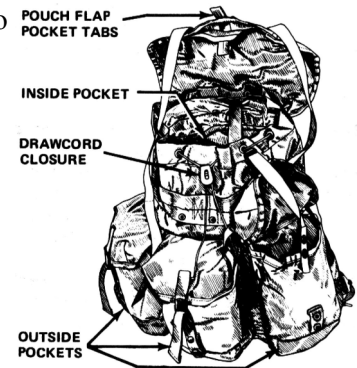

Figure 8-25: Medium Combat Field Pack
**Medium Combat Field Pack.** Use the medium combat field pack to carry existence loads including clothing, rations, and personal items. The pack (Figure 8-25) has a pouch with a drawcord closure and three outside smaller pockets. These pockets are tunneled to the pouch so that long objects can be carried between the pouch and each pocket. The pouch also has a special inside pocket to carry the dismantled radio if necessary. The pouch flap has a pocket that can be opened by pulling two tabs apart. Small flat items can be carried in this pocket. Pressing the flap sides together closes it. Hangers are also provided to carry individual equipment or extra ammunition. This pack can be carried directly on your back or on the pack frame. In extremely cold climates, you must carry the pack on the frame. (The medium rucksack is the only one you will be issued as a cadet).